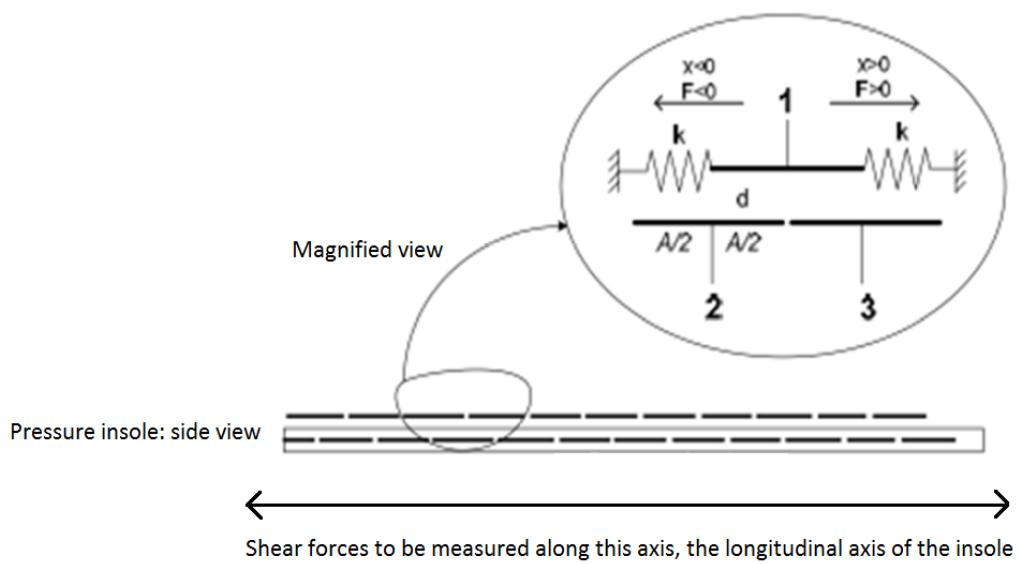
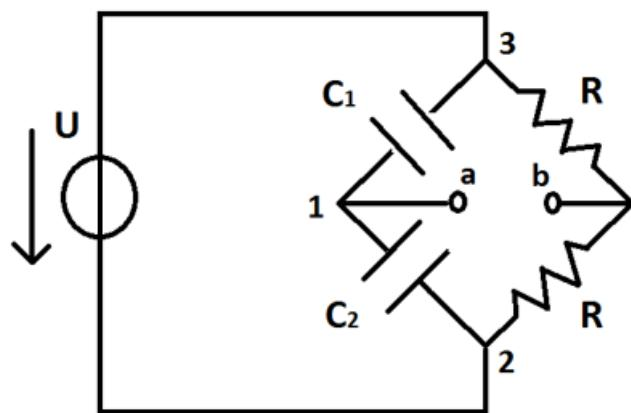

Figure 2: representation of the pressure insole
Figure 3: Conditioning bridge
- 1) In the diagram representing the pressure insole (Fig. 2), we can see 3 different plates that effectively function as two capacitors. When plate 1 is displaced, it brings about a change in the area "seen" by the other capacitors. We already saw in the course that this double-capacitor system can be conditioned with the circuit below (Fig. 3).
Note that plate 1 in Fig. 2 has been represented as two plates in Fig. 3 for clarity.
Here, $\varepsilon = \varepsilon_r \varepsilon_0$, with ε_0 being the permittivity of vacuum. Let the side length of each square-shaped capacitor be a . Thus, $A = a \times a$. Let plate 1 be displaced to the left (refer Fig. 2) by an amount $x = \frac{F}{2k}$. Then, due to a change in the surface area of plate 1 "seen" by the plates 3 and 2, the capacitance values C_1 (formed by plates 1 and 3) and C_2 (formed by plates 1 and 2) will change in the following way:
We can then obtain the measured voltage, U_0 from Fig. 3 as: